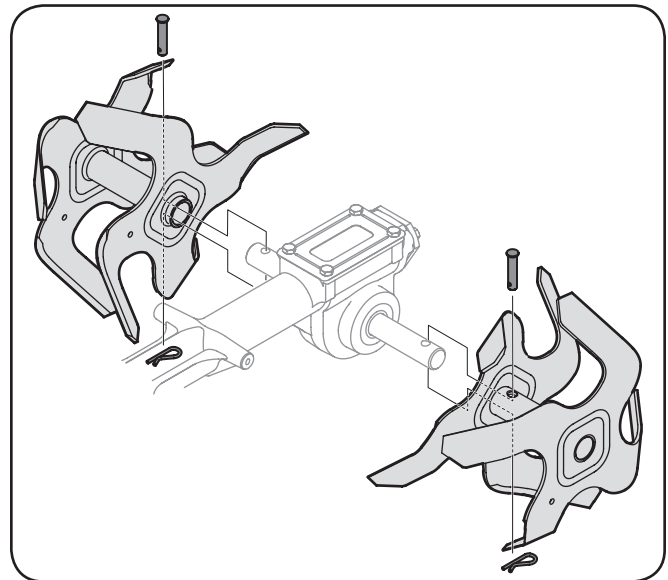

Figure 7-6
- To remove a tine assembly, simply remove the internal cotter pin securing the clevis pin as seen in Fig. 7-6. Remove the clevis pin and slide the assembly to the outside of the unit and off of the tine shaft.